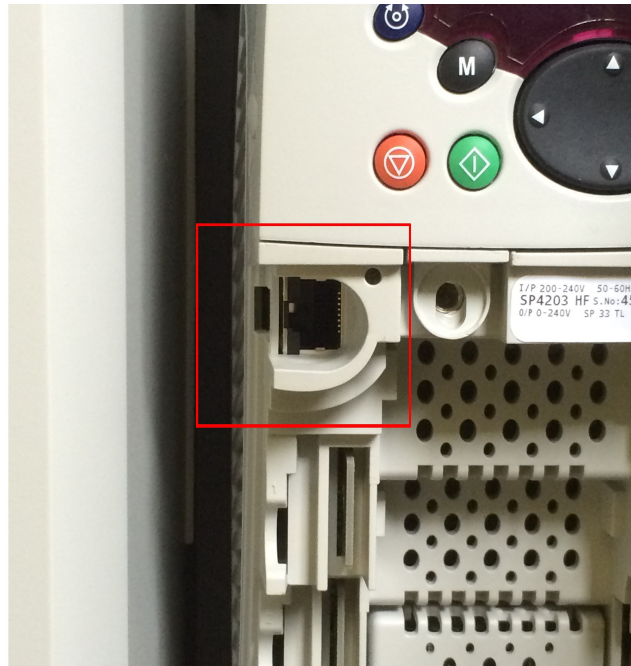

Figure 1
2. Plug in USB cable from Centroid console or PC to the spindle drive shown in Figure 1. If not using the USB cable and CTSOft software, skip to **Keypad Setup** located on page 13.